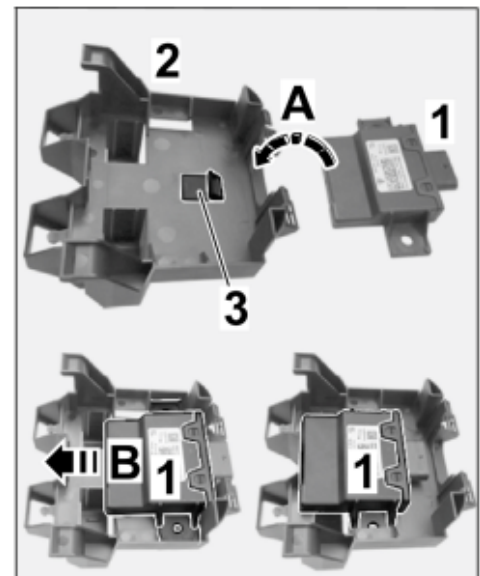

Figure 13
- 2.3.2 Insert new engine noise control unit at the underside in the control unit holder. ⇒ *Figure 13 -A-*
- 2.3.3 Push the engine noise control unit in the holder to the opposite side of the plug connection (⇒ *Figure 13 -B-*) until control unit engages in the holder.